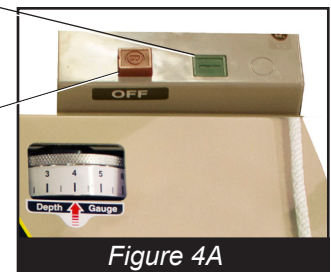

Figure 4A
- Be sure the “STOP” (red) button is depressed (*Figure 4A*). Hook up the electrical power source by plugging into the connector provided. If the cord does not mate with the connector, consult a qualified licensed electrician before continuing. Be Sure the equipment is properly grounded.
- After completing the previous step, to start the motor, be sure the Emergency Stop (E-Stop) is in the UP position (*Figure 2*). Press the “START” (green) button (*Figure 4A*).